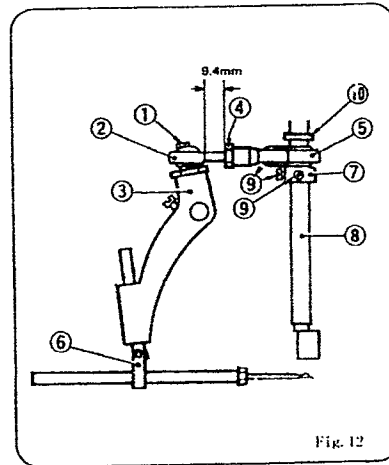

Fig. 12
4-5. For replacement or adjustment of Ball Rod, refer to Fig. 12.
The position of Needle is adjusted so that the distance between the point of Needle (at its highest position) and Throat Plate is 13 mm, after loosening screw on Needle Bar Connection Assembly ⑥ in Fig. 12.
① Screw 11/64S40089
② Rod End 6APOS8
③ Needle Bar Lever 242051A
④ Nut 1N8
⑤ Connecting Rod Assembly 242011A
⑥ Needle Bar Connection Assembly 242101A
⑦ Eccentric Cam (part of Connecting Rod Assembly) 242011
⑧ Main Shaft 241101
⑨ ⑨' Screw 11/64S40001
⑩ Spacer 241161